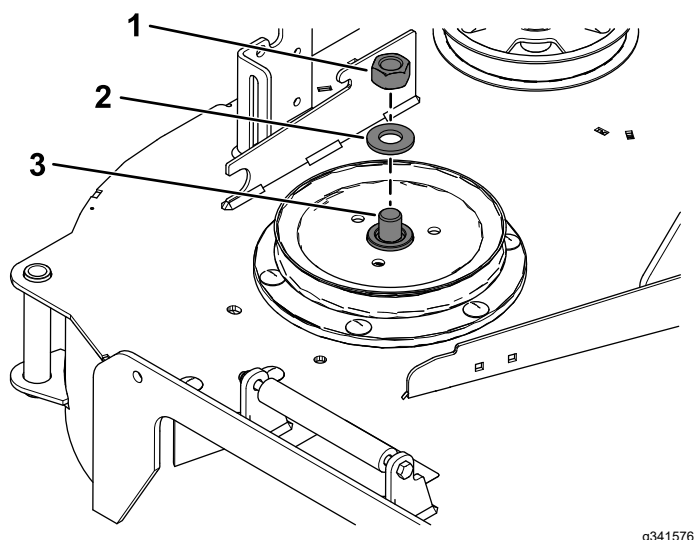

Figure 19
3. Use a wrench (1-1/2 inches) to hold the spindle shaft, as you remove the hex nut (3/4 inch) and washer from the spindle shaft (Figure 19).